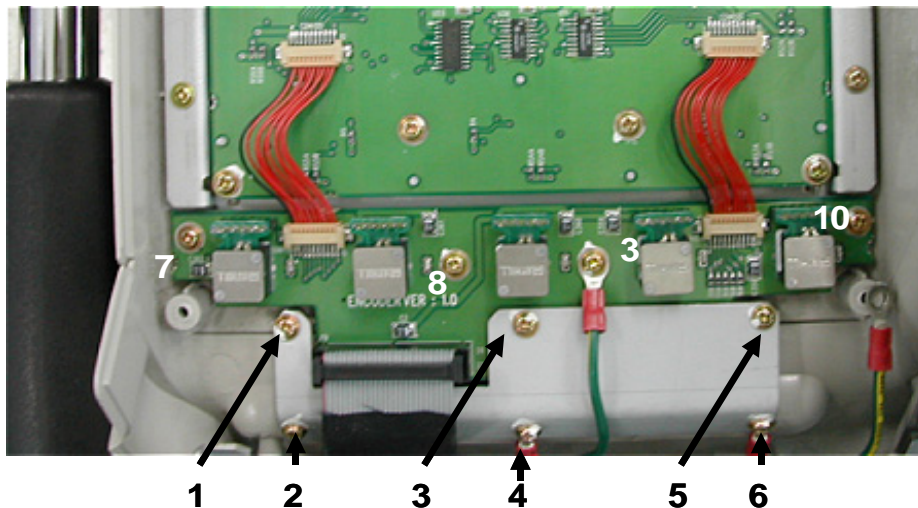

Figure 8-42 Unscrew 4 screws from Menu Encoder Circuit Board
- 3.) Disconnect two cable connector. Unscrew ten(10) screws (1-10) to remove the Menu Encoder Assy. Refer to Figure 8-42.